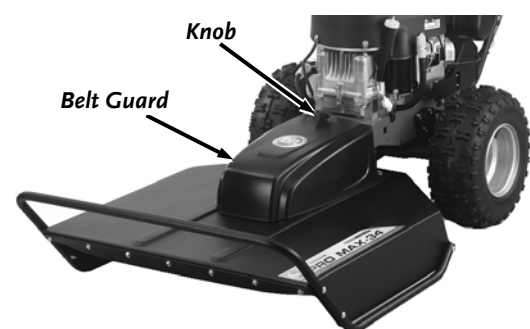

Figure 8
7. Install the Belt Guard that was shipped with the machine and secure with the Knob from the product package (**Figure 8**).